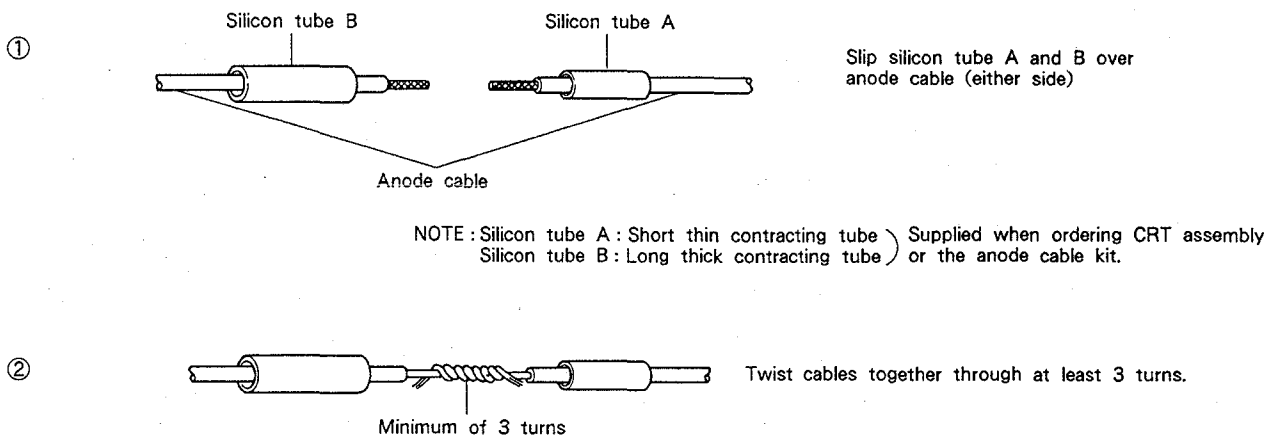

Fig. 10-4-1 Anode cable joining procedure (1)
- The silicon binder is applied to guard the cable core leads from external air. Apply binder liberally. After completing the joint (at step ⑩ in Fig. 10-4-1 thru 3), make a hole in the silicon binder and check that the tube interior cannot be seen.